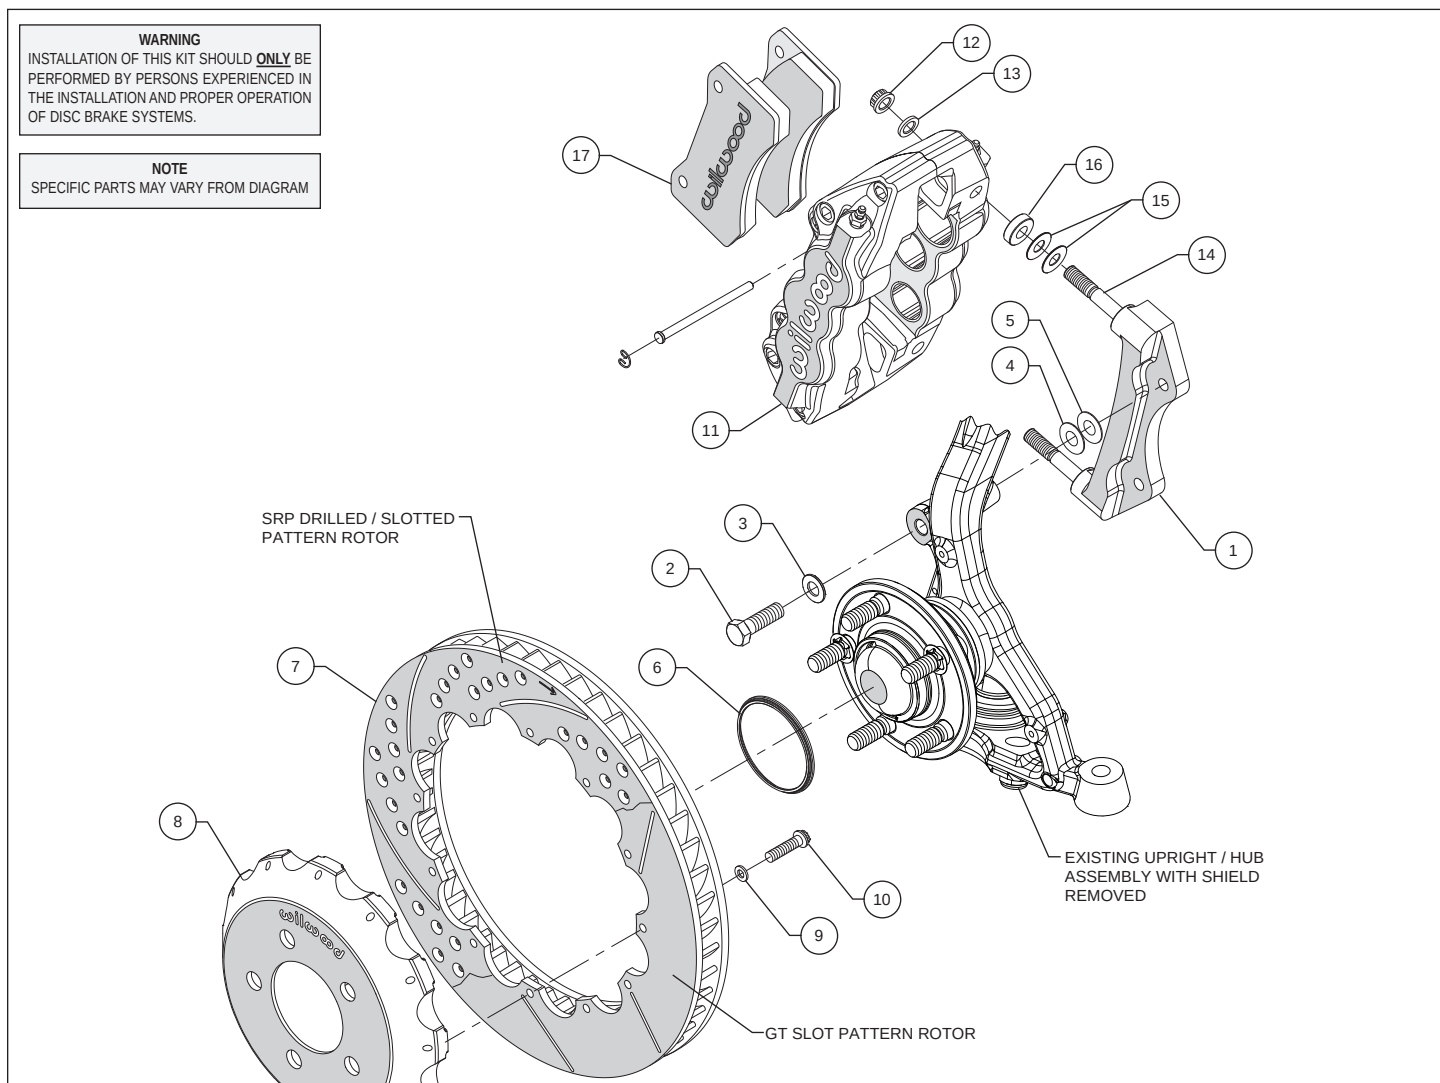

Figure 1. Typical Installation Configuration
Assembly Instructions (numbers in parenthesis refer to the parts list and Figure 1 on the preceding pages):
- The caliper mount bracket (1) should initially be installed with clean, dry threads on the mounting bolts. Orient the bracket as shown in Figure 1 and Photo 1 and install using mount bolts (2) and washers (3). Initially place one each .033" thick shim (4), and .015" thick shim (5) on each bolt between the bracket and upright, Figure 1. Temporarily tighten the mounting bolts. **NOTE:** The bracket must fit squarely against the mount bosses on the upright. Inspect for interference from casting irregularities, machining ridges, burrs, etc. Later, after the caliper alignment has been checked, the mount bolts will be secured using red *Loctite*® 271.
- **NOTE:** This kit contains distinct right and left hand calipers that must be mounted in a specific direction, as described below. Lubricate the caliper mounting studs (14) with lightweight oil. Initially place two .030" thick shims (15) and spacer (16) on each stud between the caliper and the bracket, as shown in Figure 1 and Photo 4. With the bleed screws pointing up, mount the caliper (11) onto the bracket (1) using lock nuts (12) and washers (13), Figure 1 and Photo 5. Temporarily tighten the lock nuts. Ensure that the caliper is mounted so the largest pistons are at the rotor exit end of the caliper, in relation to the direction of the rotor. View the rotor (7) through the top opening of the caliper. The rotor should be centered in the caliper, Photo 6. If not, adjust by adding or subtracting shims (4 and/or 5) between the bracket and the upright. Always use the same amount of shims on each of the two mounting bolts. Once the caliper alignment is correct, remove the bracket mounting bolts one at a time, apply red *Loctite*® 271 to the threads, and torque to 65 ft-lb.